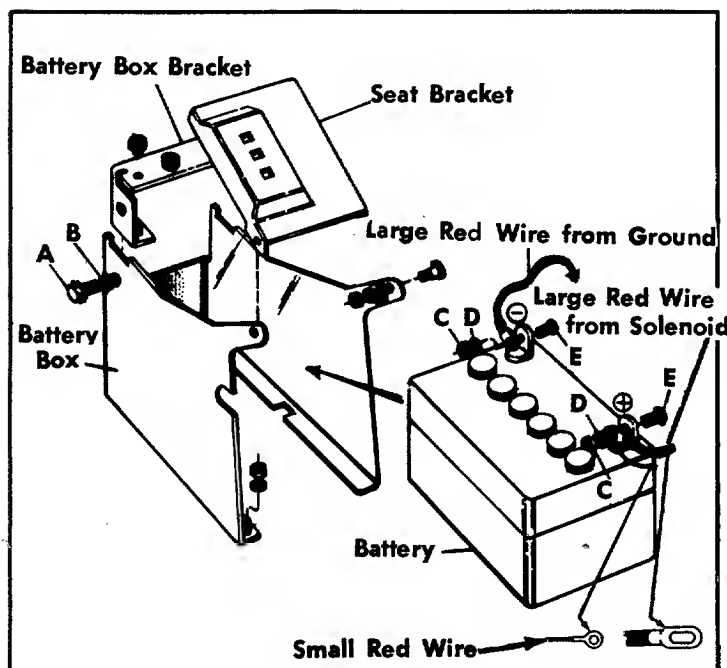

FIGURE 4. INSTALLING THE BATTERY
See figure 4.
Step 2. Remove screw (A) and lockwasher (B).
Step 5. Attach the large red wire from the solenoid and the small red wire to the positive (+) terminal of the battery with a 1/4" screw (E), washer (D) and nut (C).
Step 6. Attach the large red wire from the ground (-) to the negative (-) terminal of the battery with a 1/4" screw (E), washer (D) and nut (C).
Step 7. Replace the battery box bracket with screw (A) and washer (B). See figure 4.